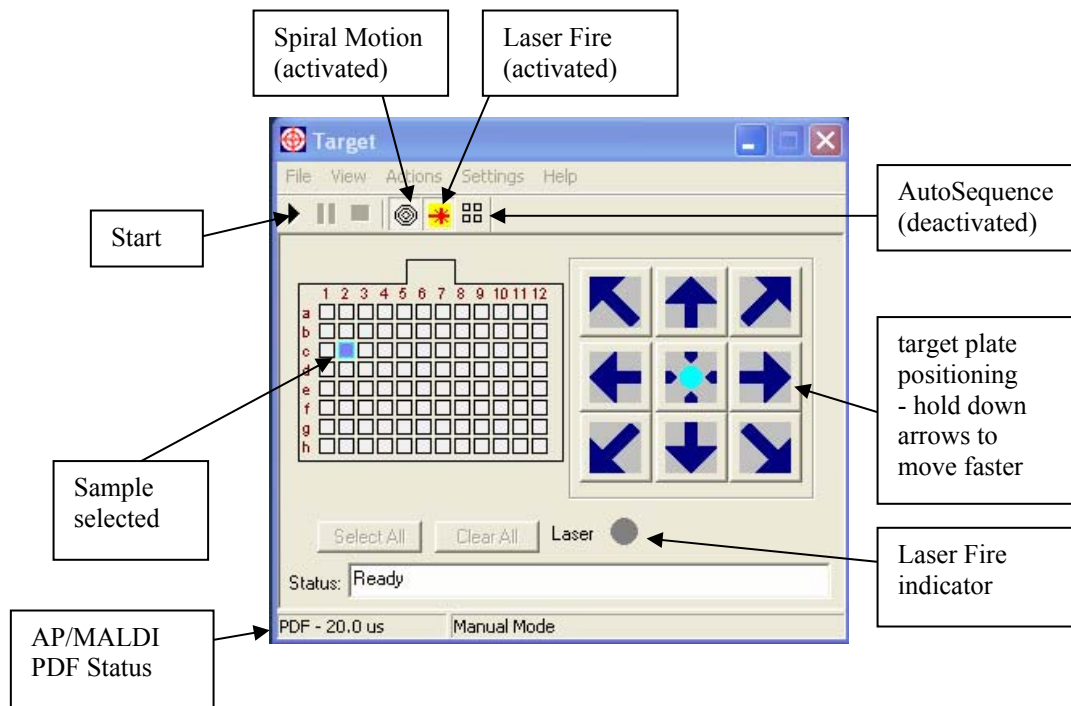

Fig. 7-12. Target software controls.
There are two modes of operation for the Target software: Manual (AutoSequence toolbar icon is deactivated) and AutoSequence. Switch between the modes by pressing the AutoSequence toolbar icon  (Fig. 7-12). In manual mode, only one sample on the "Target plate" can be selected. Click any spot in the Target Plate field and the target plate will move to the selected position. You can shift the position of the spot by clicking the arrow buttons placed around the Center button (See Fig. 7-12) or holding down on the arrow buttons to advance faster. Click the Center button to restore the central spot position.
1. Deactivate the “AutoSequence” button in the *TARGET* software window (See Fig. 7-12 for location of AutoSequence button).